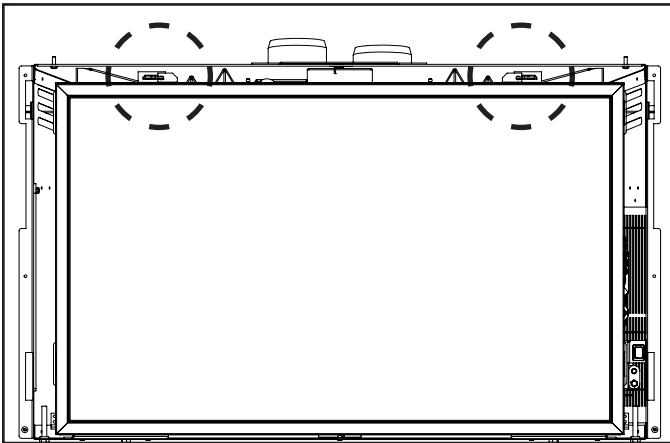
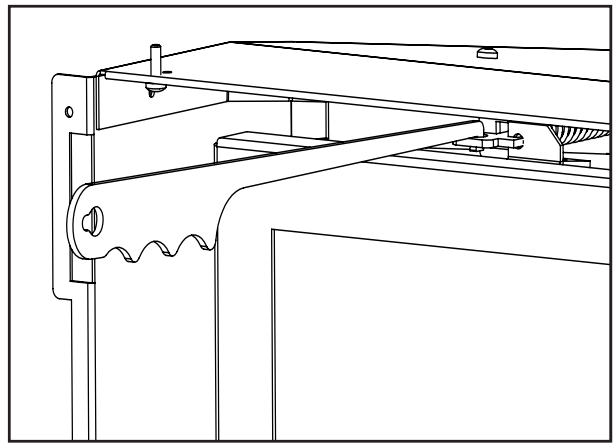
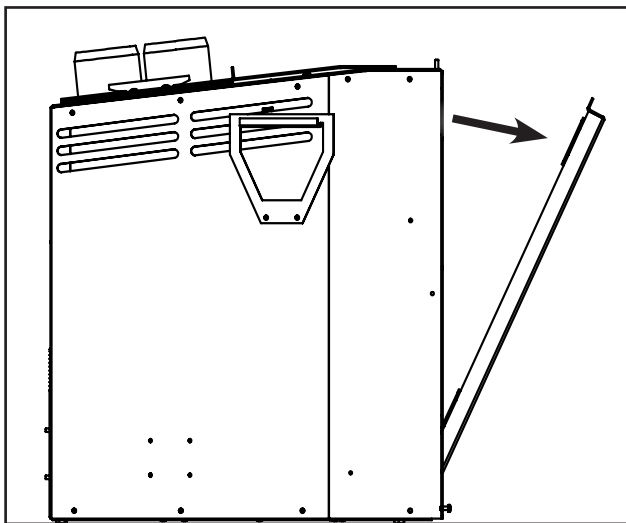

Figure 21: Door Spring Latch Locations
Figure 22: Door Latch Release.
Figure 23: Door Removal
The glass door of the fireplace is retained at the top by two spring latches as shown in Figure 21. Release the latches by placing the hooked end of the door tool in the hole on the door latch mechanism (Figure 22) and pulling the latch forward then out to the side. When the two (2) latches have been released, tilt the top of the door forward and lift up to remove the door (Figure 23). To re-install the glass door simply reverse the procedure.